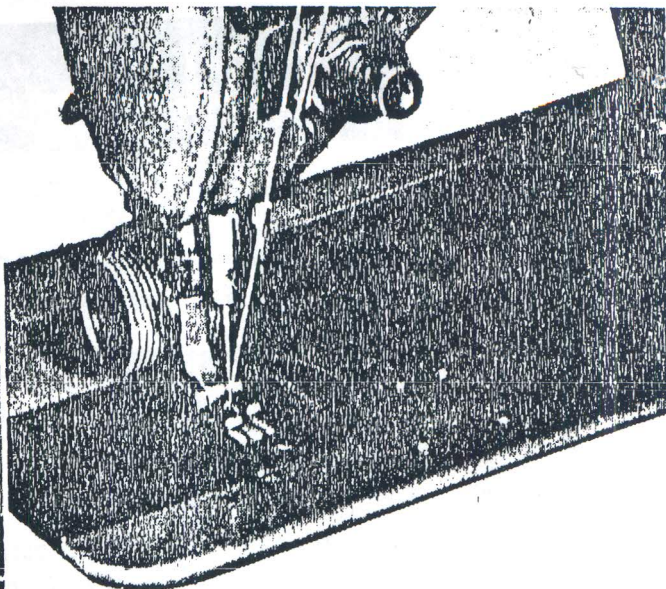

Figure 4
3) A roller only that is located either beside or behind the needles and is driven through means of shafting from a clutch housing that is located somewhere to the right of the needle. In this case, underarm space is limited. This mechanism often is made with the top roller being powered and feeding against a hardened shoe in or on the cloth plate surface of the machine. (*Figure 4*).